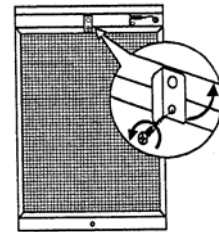

Figure 1
- Remove the screw in the swing latch if so equipped. (As an extra safety precaution, a factory installed screw is installed in the swing latch. It can be re-used or discarded - Figure 1)